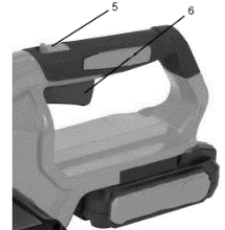

Fig. 8
Press the release button (5) and press the trigger button (6) (Fig. 8).